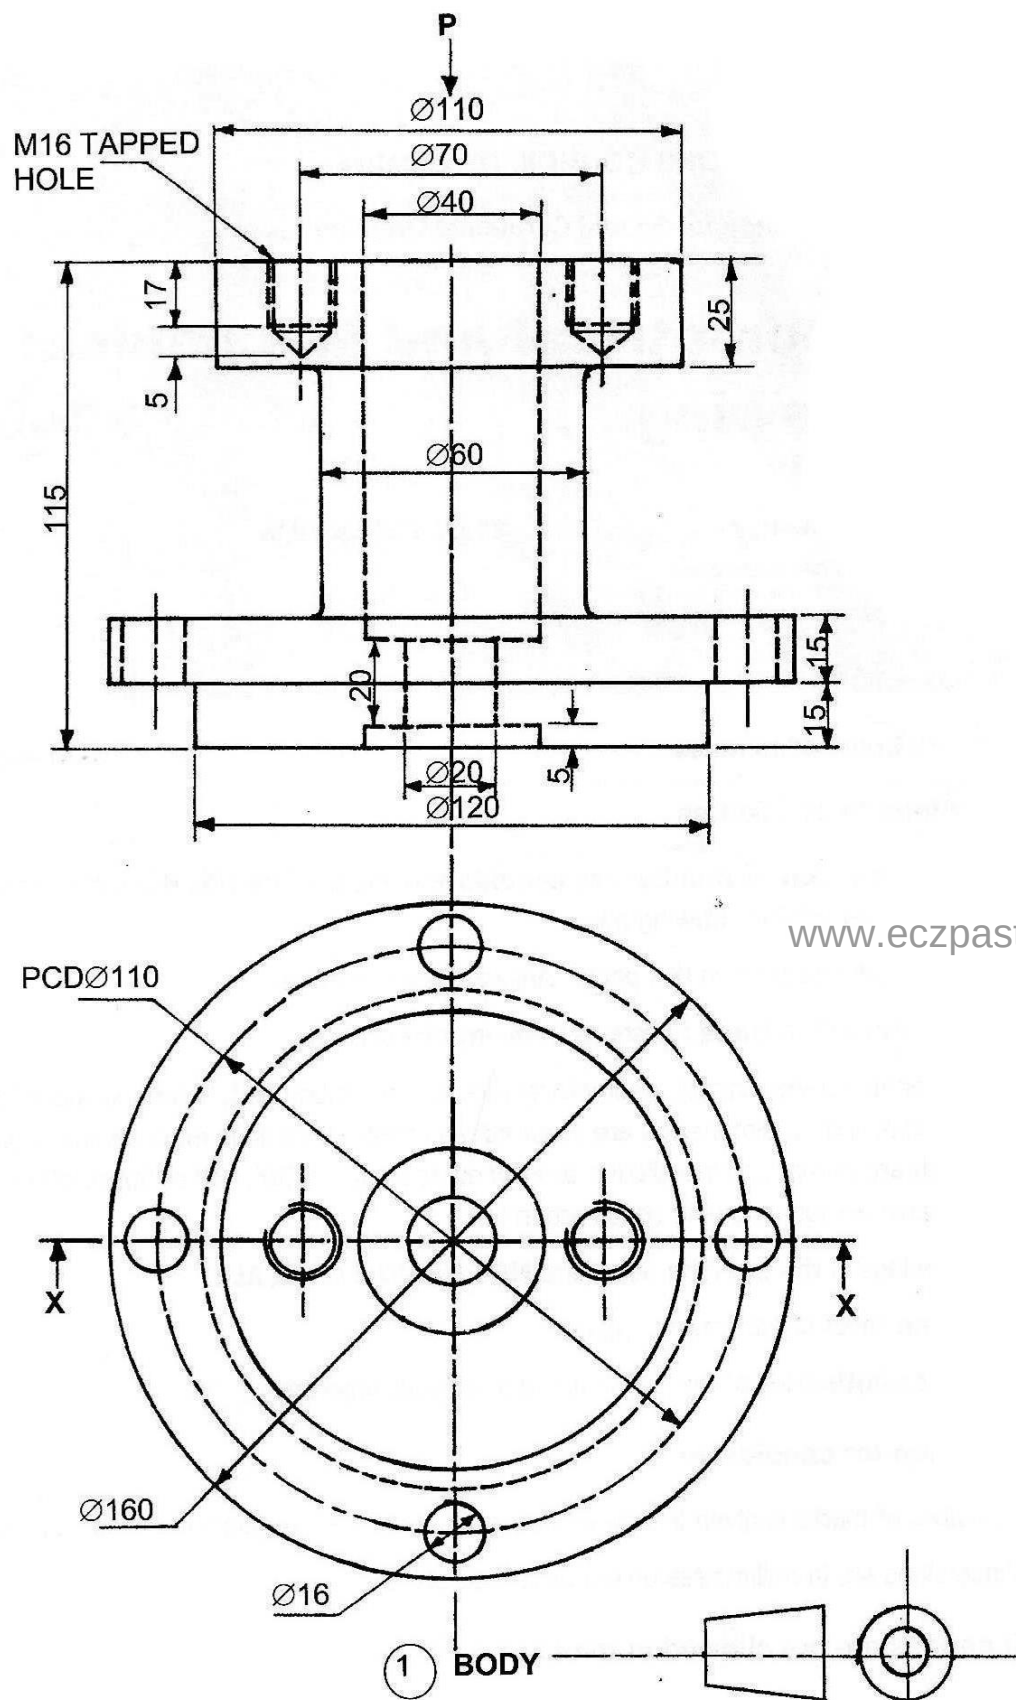

FIGURE 2
The insert contains **Figure 2** for Section 2.
- 2** Figure 2 on the insert shows details of the main components of a **PRESSURE PUMP VALVE** in First Angle Projection.